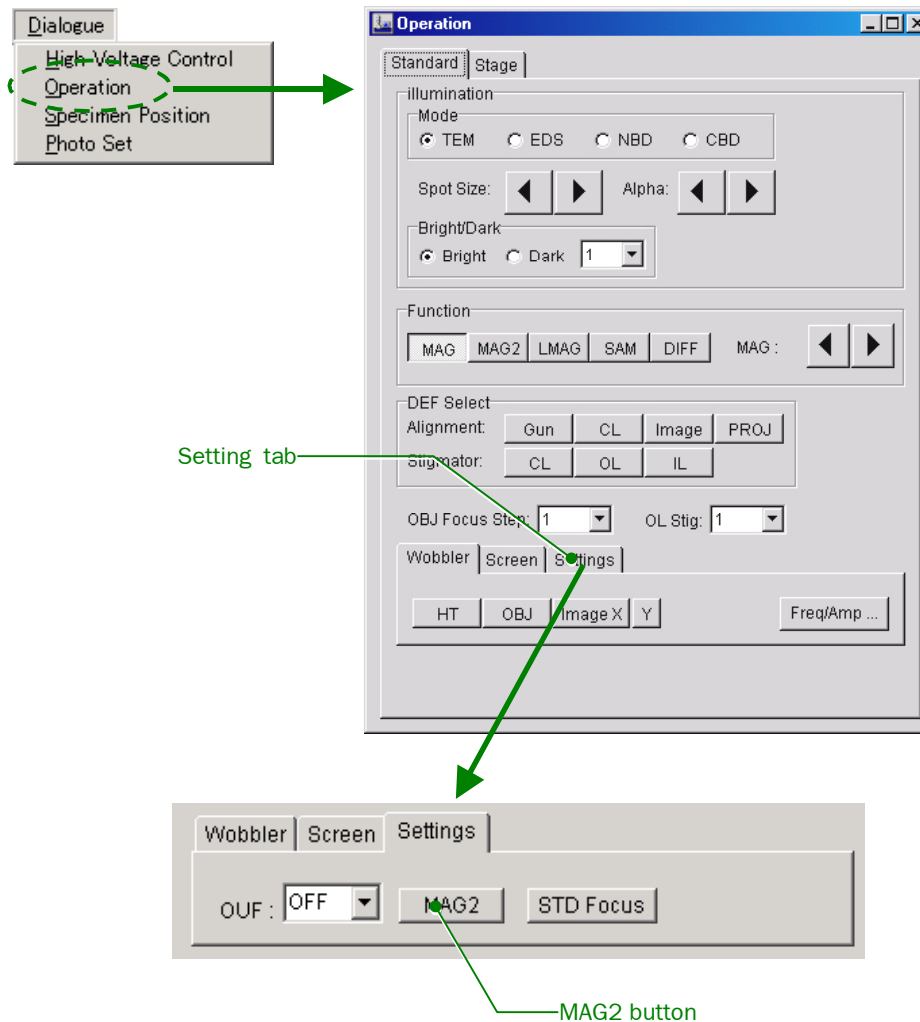

Fig. 5.61 Operation window
1. Press MAG2 (R1-②).
2. Choose an appropriate magnification using the MAG/CAM knob (R1-⑤).
3. Click on the **Standard** tab in the **Operation** window (☞ Fig. 5.61).